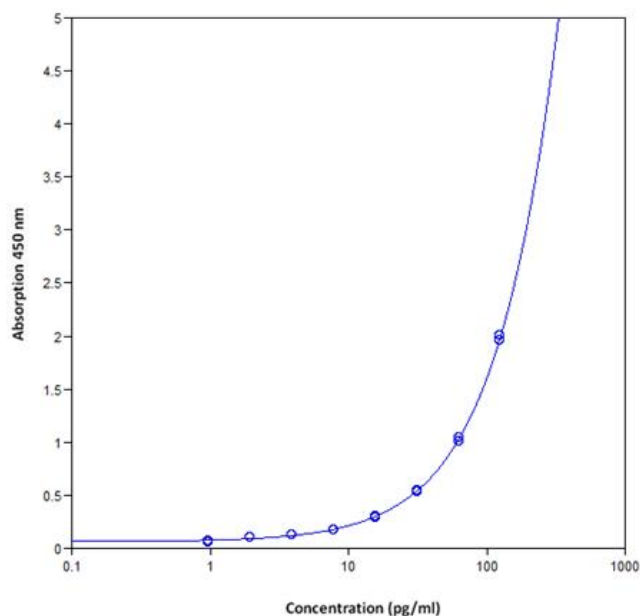

Fig. 8 Representative standard curve for Human GDF15 ELISA Kit. Human GDF15 was diluted in serial 2-fold steps in Sample Diluent.
- A representative standard curve is shown in Figure 8.